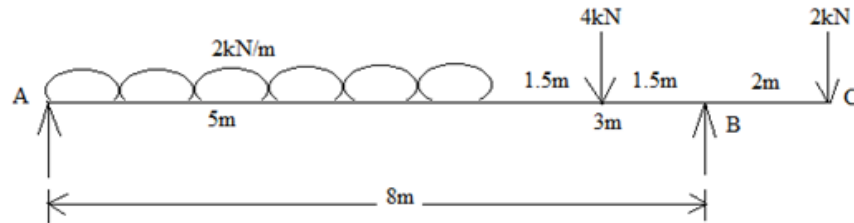

Figure: 2
5. Calculate the reactions in the beam shown in Figure 2. Draw the SFD and BMD. Determine the location of maximum bending moment and mark it clearly on each of the diagrams.